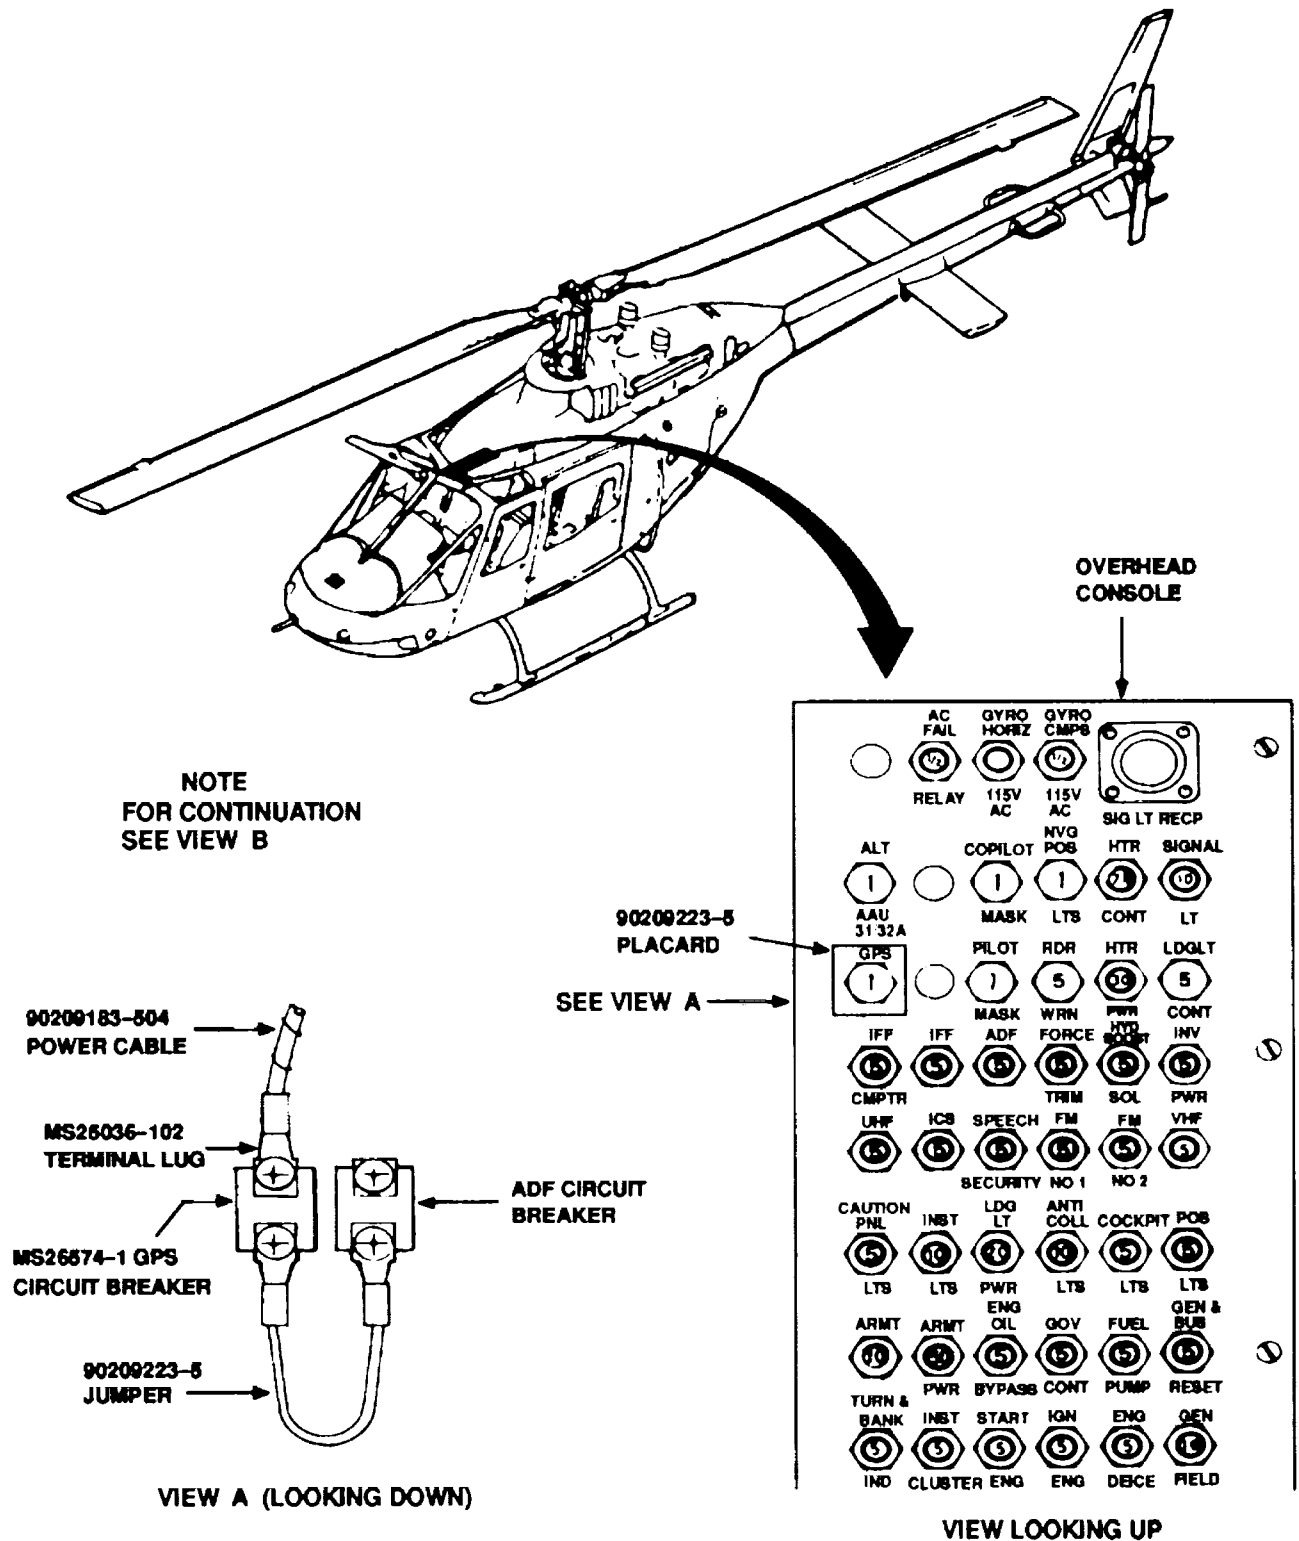

Figure 3. GPS Power Cable and Circuit Breaker Installation.
- j. Remove jumper wire from line side of RDR ALT circuit breaker and line side of GPS circuit breaker (Figure 3, View A).
- k. Remove GPS power wire from GPS circuit breaker (Figure 3, view A).
- l. Remove GPS circuit breaker (P/N MS26574-1) from overhead console (Figure 3).
- m. Remove GPS circuit breaker placard from overhead console (Figure 3).